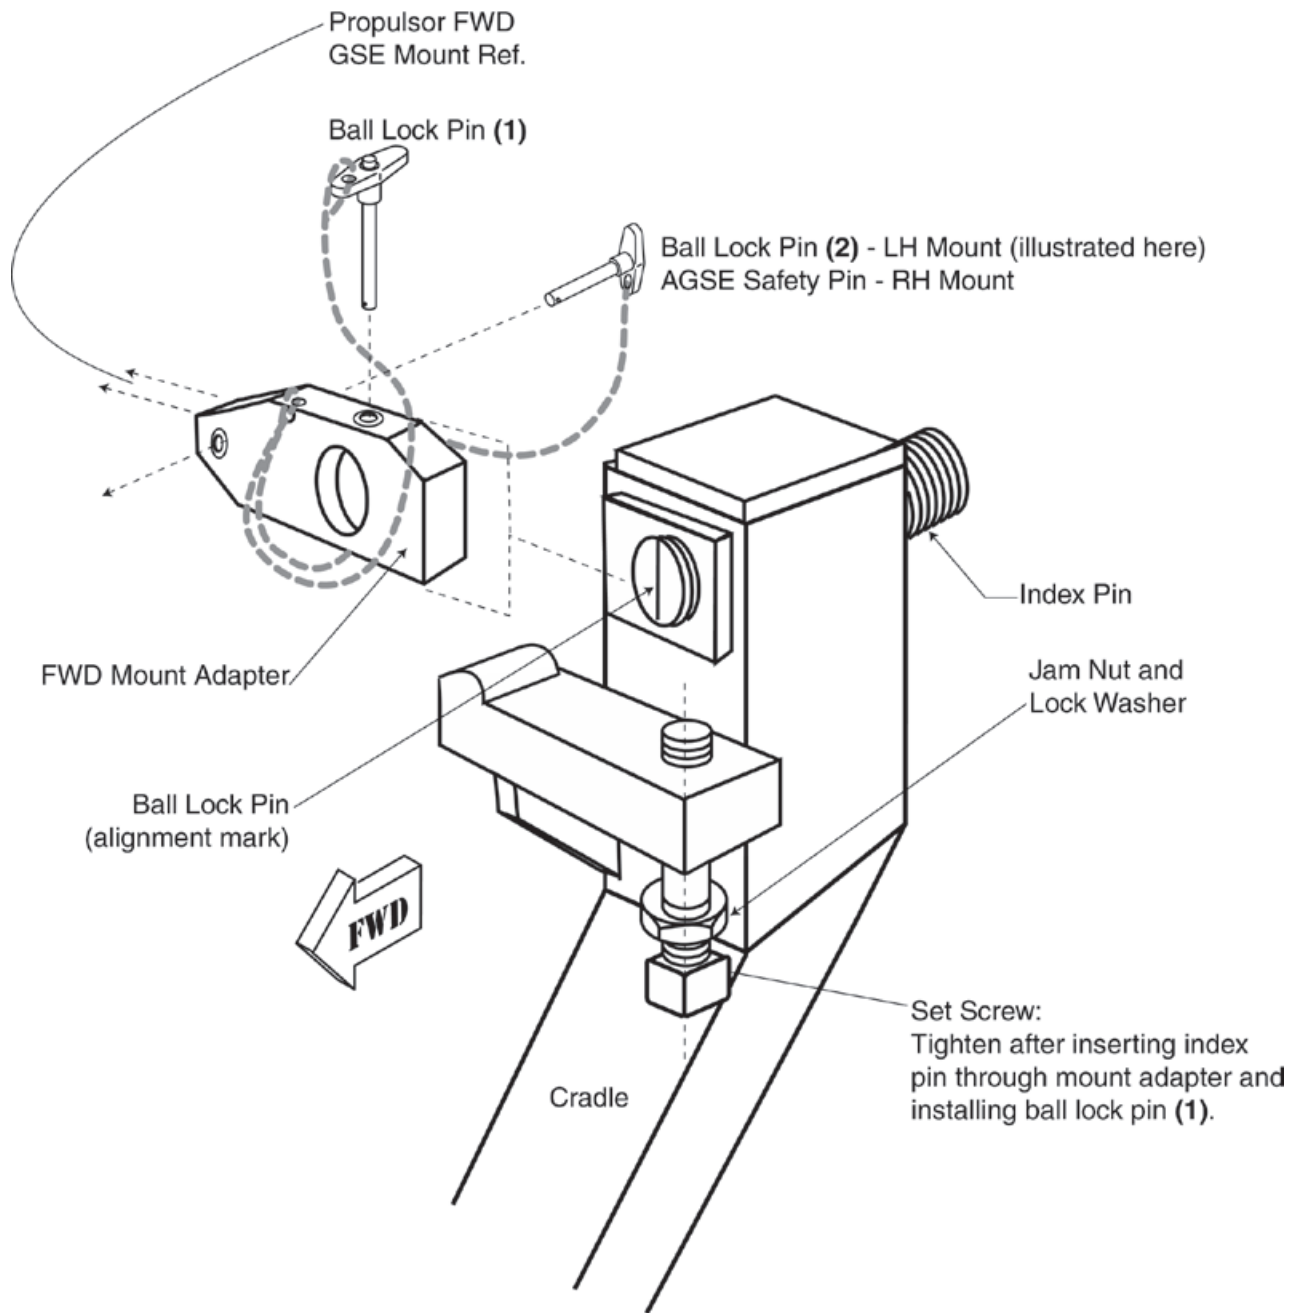

Figure 5.7-2. Exploded View showing Ground Handling Mount Assembly
- 5) Remove the forward ground handling mount adapters from the engine stand and install on the engine using the pins provided. Install the safety pin clips after pins are inserted. (See Figure 5.7-2)